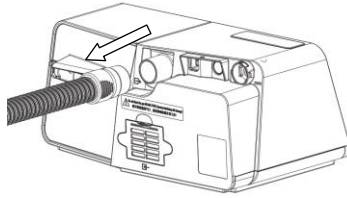
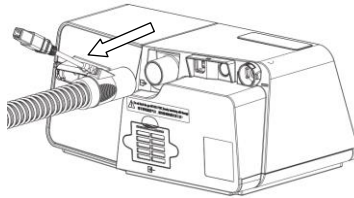

Fig. 18-4
Fig. 18-5
(1) Remove the tubing from the device and mask before cleaning.
(2) Hold the cuff of the tubing and gently pull it away from the device as shown in Fig. 18-4. Or disconnect the power of the heated tubing, then hold the cuff of the heated tubing and pull it away from the device, as shown in Fig. 18-5.